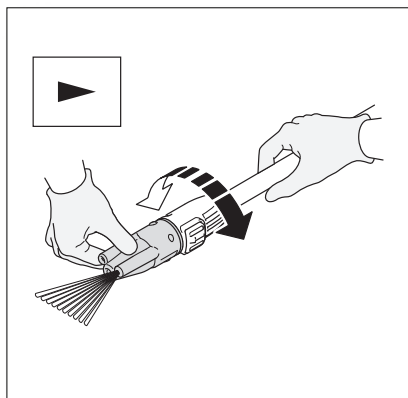
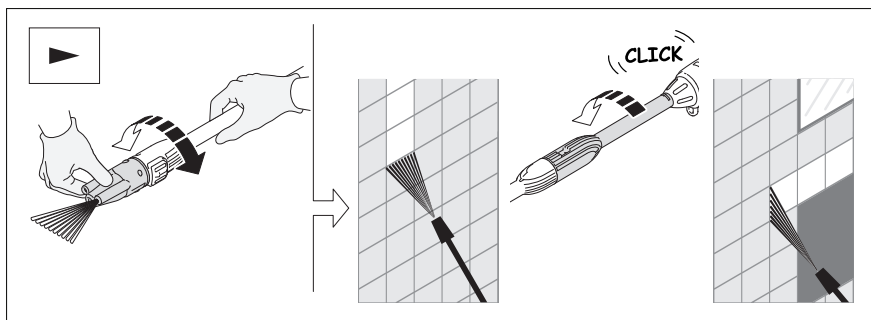

Fig. 20
Fig. 21
- Fan Setting: **(Fig. 20)** Use the fan spray when cleaning windows, patio furniture, siding etc. Place the nozzle approximately four to five feet away from the surface with the nozzle at a forty five degree angle. Squeeze the trigger and vary the fan spray pattern and angle until optimum cleaning efficiency is achieved. **(Fig. 21)**